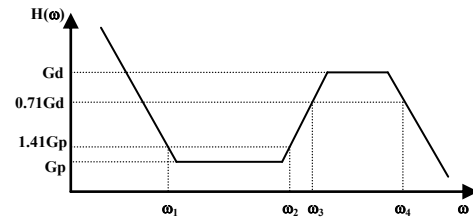

Figure 14. Transfer Function of the Compensation Network
The transfer function of the compensation network, defined as  $H(\omega)=IDR(\omega)/TMO(\omega)$ , is shown in Figure 14.
D.  $C_d \times R_i$  determines the corner frequency,  $w_2=1/(C_d \times R_i)$ , where the differential component starts picking up (see Figure 14), as the frequency goes up.
h. The evaluation schematic is given in Figure 14.